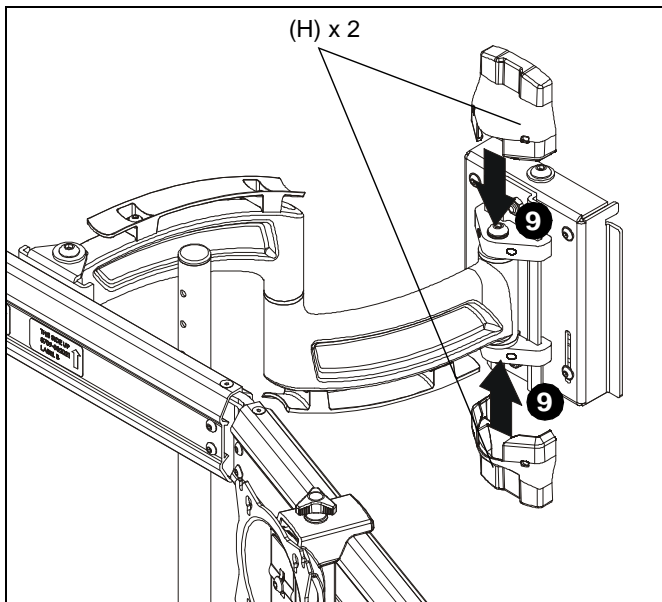

Figure 6
- Install two wall bracket covers (H) onto wall bracket. (See Figure 6)